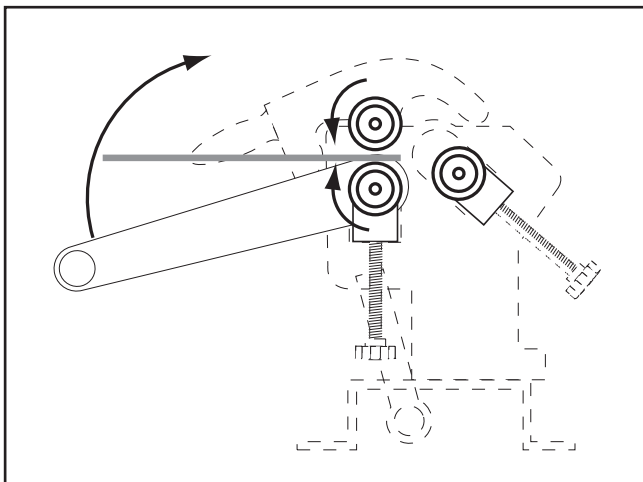

Figure 15. Flat rolling the workpiece.
- With the help of an assistant, feed the workpiece into the rollers while turning the crank (**Figure 15**).